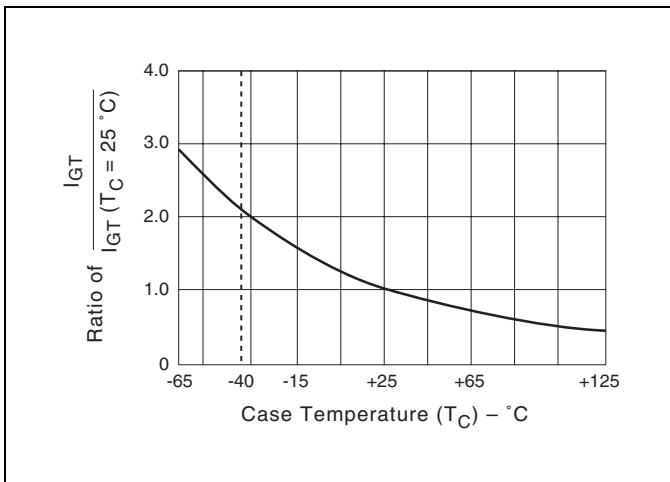

Figure E4.8 Normalized DC Gate Trigger Current for all Quadrants versus Case Temperature
- (7) See Figure E4.8 for IGT versus TC.